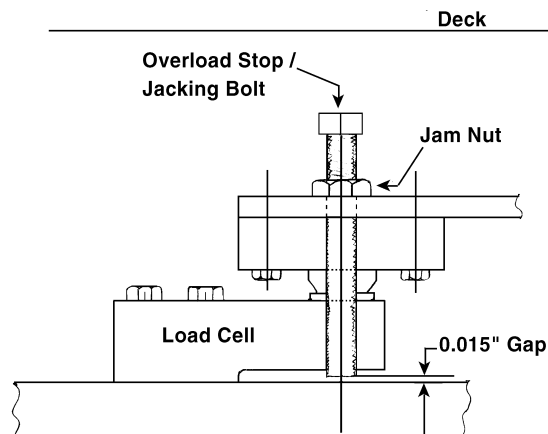

Figure 7-1: Overload Stop/Jacking Bolt
5. If any cell has an unusual signal, remove all load from that cell by raising the platform using the overload stop/jacking bolt (see Figure 7-1).
- Check the overload stops for proper adjustment (0.015 inch gap) (see Figure 7-1).